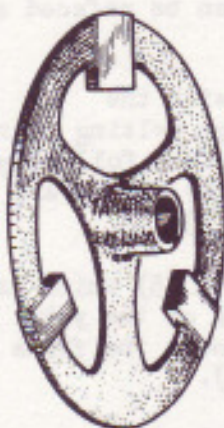

FIG. 5. BORG & BECK
Due to the variation in the thickness of the facings (15, Fig.1) of the driven plate assembly, the only accurate method is to adjust the screws (6) while the pressure plate (4) is held parallel to the flywheel by using a Borg and Beck Lever Adjustment Gauge, (Fig.5). The thickness of the three flat machined lugs of the gauge should not be less than 0.327" (8.3 m/m) or more than 0.330" (8.38 m/m) thick, nor should the external diameter of the gauge be less than 8.400" (213.36 m/m).